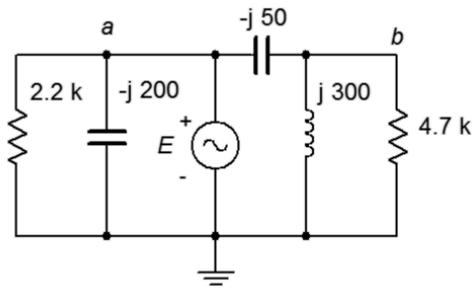

Figure 4.12
17. For the circuit of Figure 4.12, determine voltages  $v_{ab}$  and  $v_b$  if the source is 100 volts peak.
18. For the circuit of Figure 4.12, determine the currents through the two resistors.